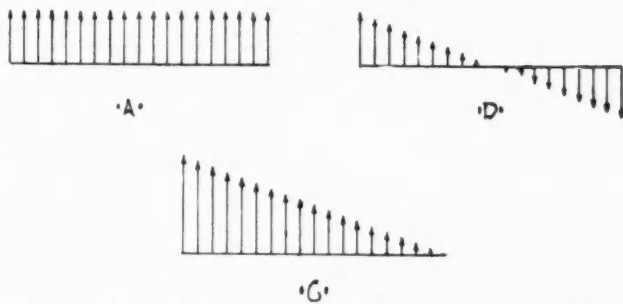

Fig. 6B. A Graphic Illustration of the Distribution of the Stresses on Post Cross-Section Under Eccentric Loading.
"The effect of such an eccentric load is of double importance. It causes a direct downward crushing action on the cross-section of the timber, and also a bending action due to the fact that the load is off-center. A graphical illustration of this effect is shown in Fig. 6B. The first figure (A) shows the effect of the load if distributed uniformly over the cross-section, each line representing graphically the intensity of the crushing stress on a square inch of area. This is found by dividing the total load on the post in pounds by the area of the cross-section in square inches. The second figure (B) shows the bending effect on the cross-section due to the fact that the load is supported to one side on the bracket. This effect on the post is to produce a compressive stress on the side of the cross-section near the load, and a tendency towards tension in the fibers of the material in the cross-section on the side of the center line away from the load. The condition is similar to that met in the cantilevers which we treated when we were studying beams in our earlier talks.
"To investigate the amount of the unit stress on the side of the pier at B, we will subtract the bending effect from the direct compressive effect as shown at the right in (c) in the graphical diagrams in Fig. 6B. The formula needed to express this condition of stress will be as follows: